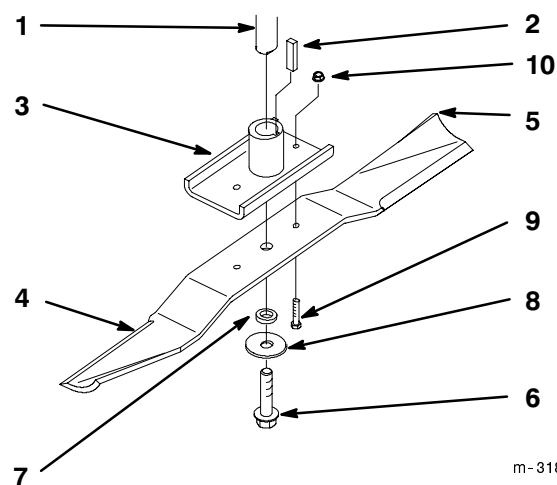
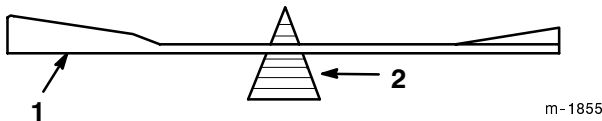

Figure 26
Figure 28
Hold the blade end using a rag or thickly-padded glove. Remove the retainer bolt with its washer and spacer, and the blade bolts and locknuts from the blade retainer (Fig. 26).
1. Install the blade onto the blade retainer and secure with retainer bolt, spacer and washer (Fig. 26).
2. Install the blade bolts and locknuts (Fig. 26).
2. Check the balance of the blade by putting it on a blade balancer (Fig. 28). If the blade stays in a horizontal position, the blade is balanced and can be used. If the blade is not balanced, file some metal off the end of the sail area only (Fig. 26). Repeat this procedure until the blade is balanced.